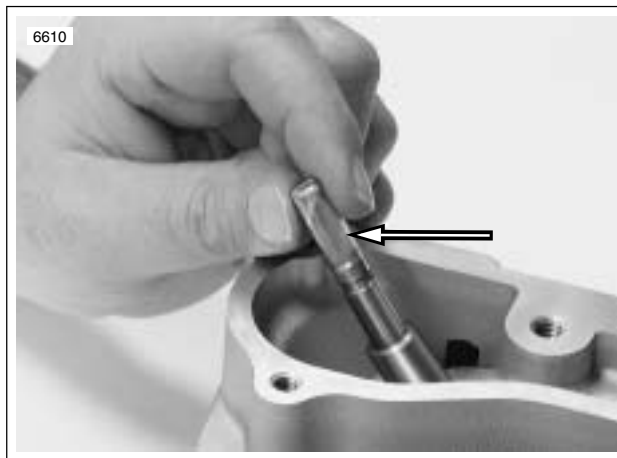

Figure 3-62. Valve Guide Seal Protector Sleeve
6. See Figure 3-62. Place a protective sleeve over the valve stem keeper groove. Coat the sleeve with oil and place a new seal over the valve stem.